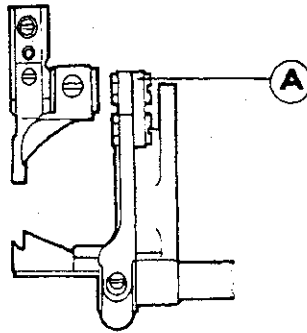

Fig. 26
Connect them as figure 26 shows and notice the position of Cutter Link Lever (A).